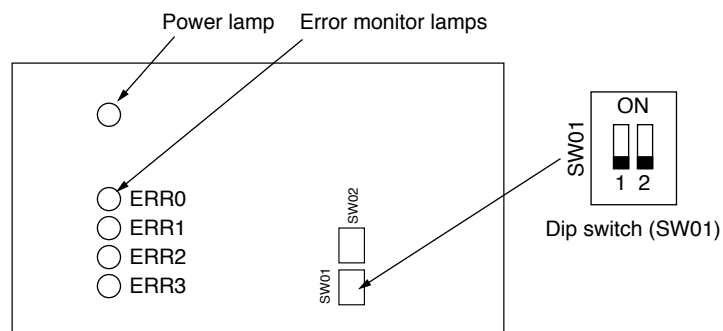

Fig. 6 Control P.C.Board
(2) Turn on the switch No.2 of the dip switch (SW01) on the Control P.C.Board. (Fig.6)
Check the combined status of the error monitor lamps (Fig.6), and refer to the "8-2-2. Display of Error Monitor Lamps" for the self-diagnostics.